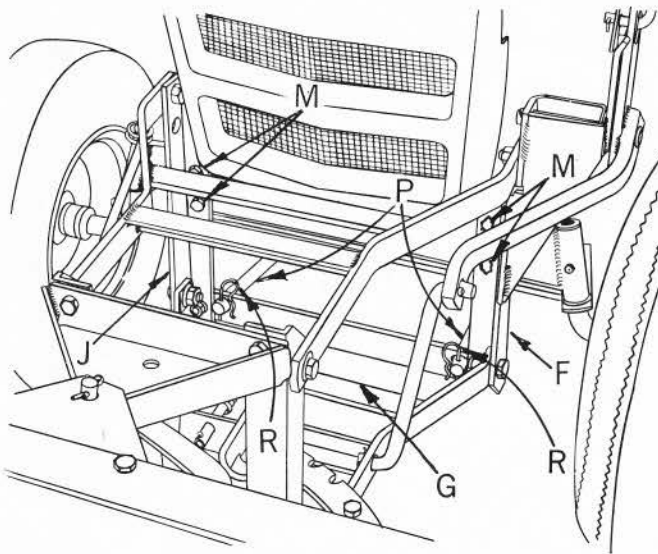

FIG. 3
8. Refer to Figure 3. Assemble mounting angle and quadrant assembly (F) and mounting angle R.H. (J) to rocker bar (L) as shown with four  $3/8 \times 1-1/4$  hex bolts, and gripco nuts (M) found in plastic bag. Leave bolts loose until push rods are installed.
9. Refer to Figure 3. Insert round ends of push rods (P) into holes in mounting angle brace (G) and secure with retainer springs (R). Retainer springs found in plastic bag.
Tighten four bolts (M) in rocker bar and mounting angles. Refer to Figure 3.